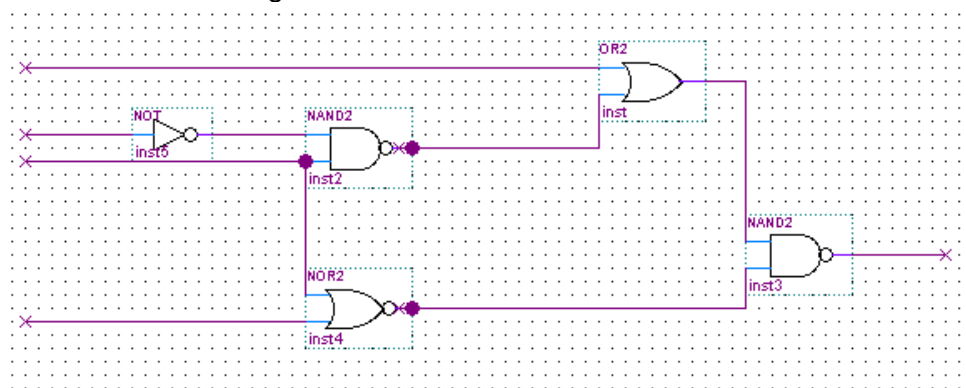

Figure 4. Wiring the devices in a circuit using Orthogonal Node Tool
- f. Now click on the **Orthogonal Node Tool** button, and drag the mouse pointer from the output pin of the OR gate to any one of the input pin of the NAND gate, then release. Similarly try to wire your whole circuit (Figure 1) that will finally be like the one shown in Figure 4.